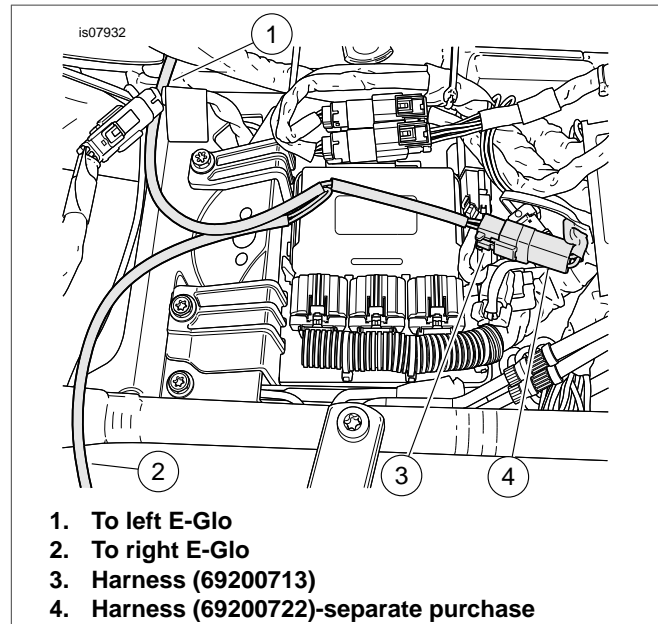

Figure 3. Install Electrical Connection Harness
3. See Figure 3. Install the Electrical Connection Harness (Part No. 69200722, purchased separately) per the instructions in that kit (if not already present).